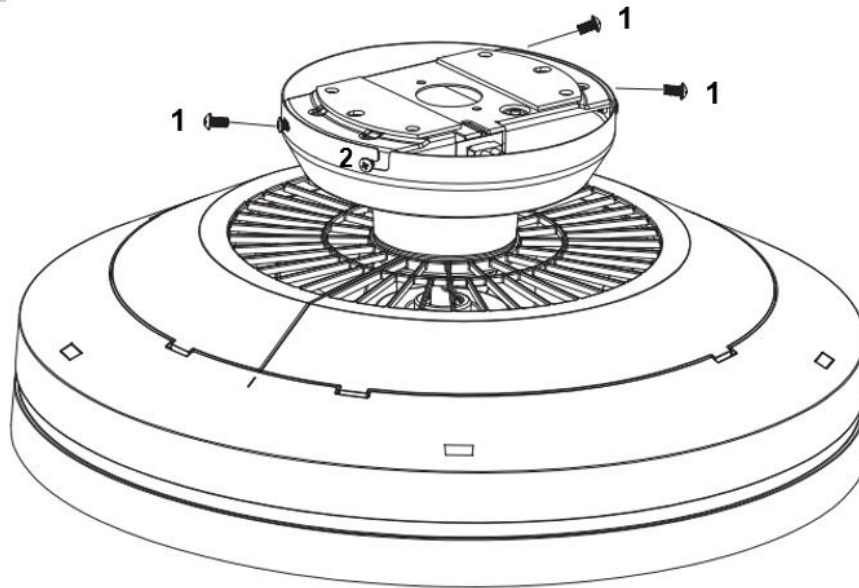

Fig. 9
- Secure and tighten the three canopy screws (1) to the mounting bracket. The hanging canopy (3) shall have 4 screws (1) & (2) in total. Avoid damaging the electrical wiring prepared previously when hanging the canopy. (Fig.9)